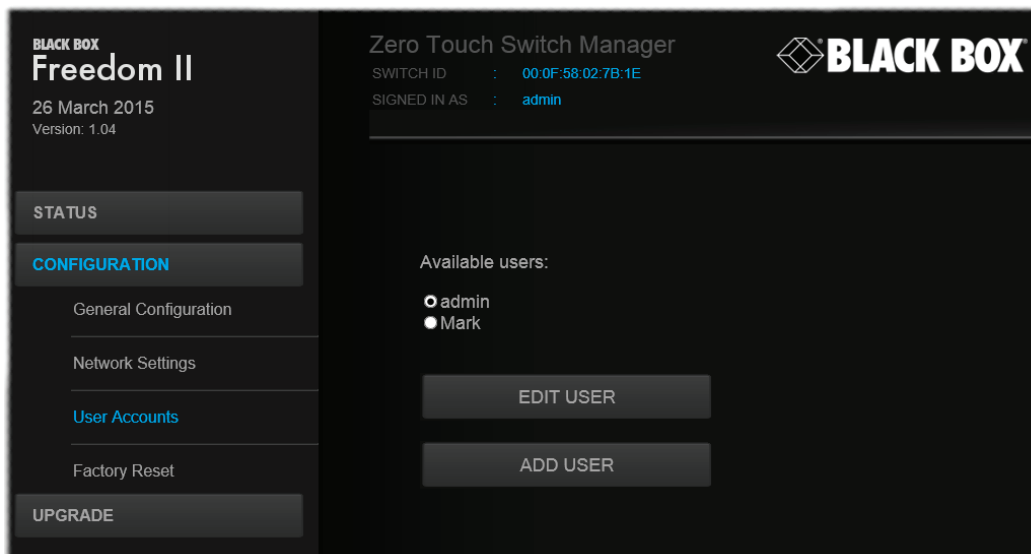

Figure 4-5. The User accounts page
3. On the left side, click the User accounts option. See Figure 4-5.